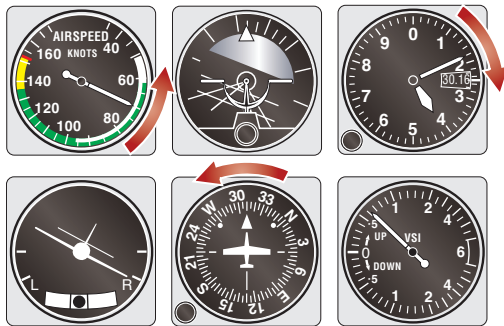

Figure 29-23 Question 3.
- What is the flight situation in figure 29-23?